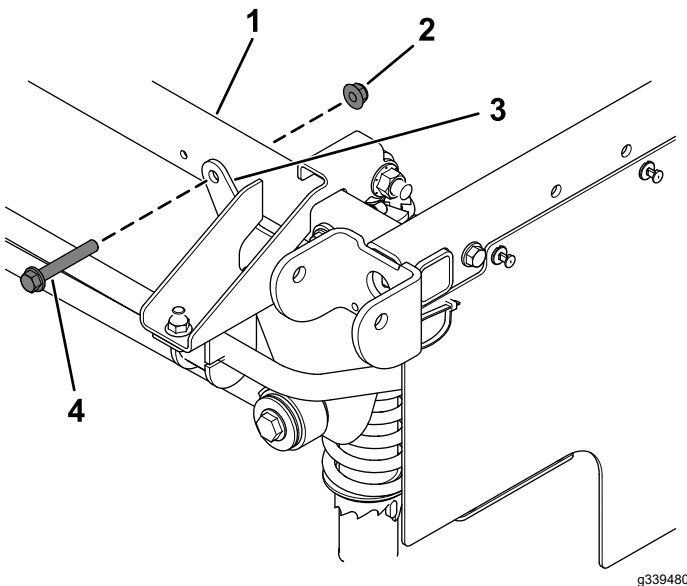

Figure 5
1. Remove the existing flange-head bolt and locknut from the right stabilizer bracket and rear frame tube (Figure 5).